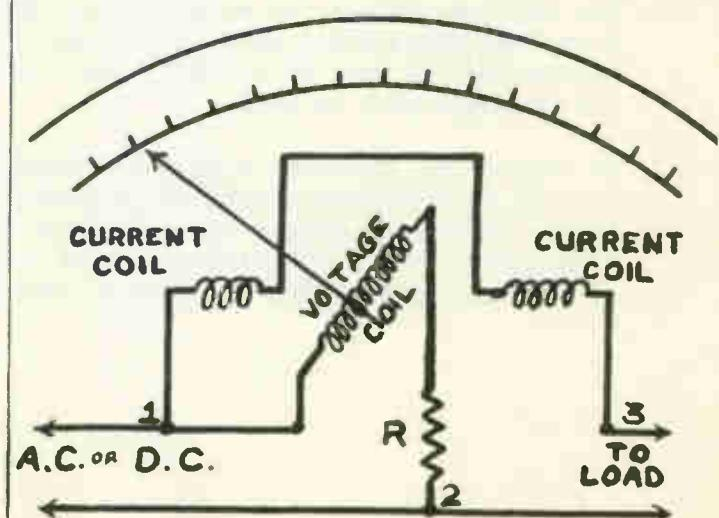

Fig. 6 Dynamometer type wattmeter.
- b. Wattmeter, Fig. 6 -- if the dynamometer field coils are connected in series with the line, like an ammeter, they will measure the amount of current by acting on the moving coil. Then, if the moving coil is connected across the line in series with a resistor, like a voltmeter, it will measure the voltage. That is, the field current and the armature voltage will together turn the moving coil and pointer to indicate instantaneous power, calibrated in watts.